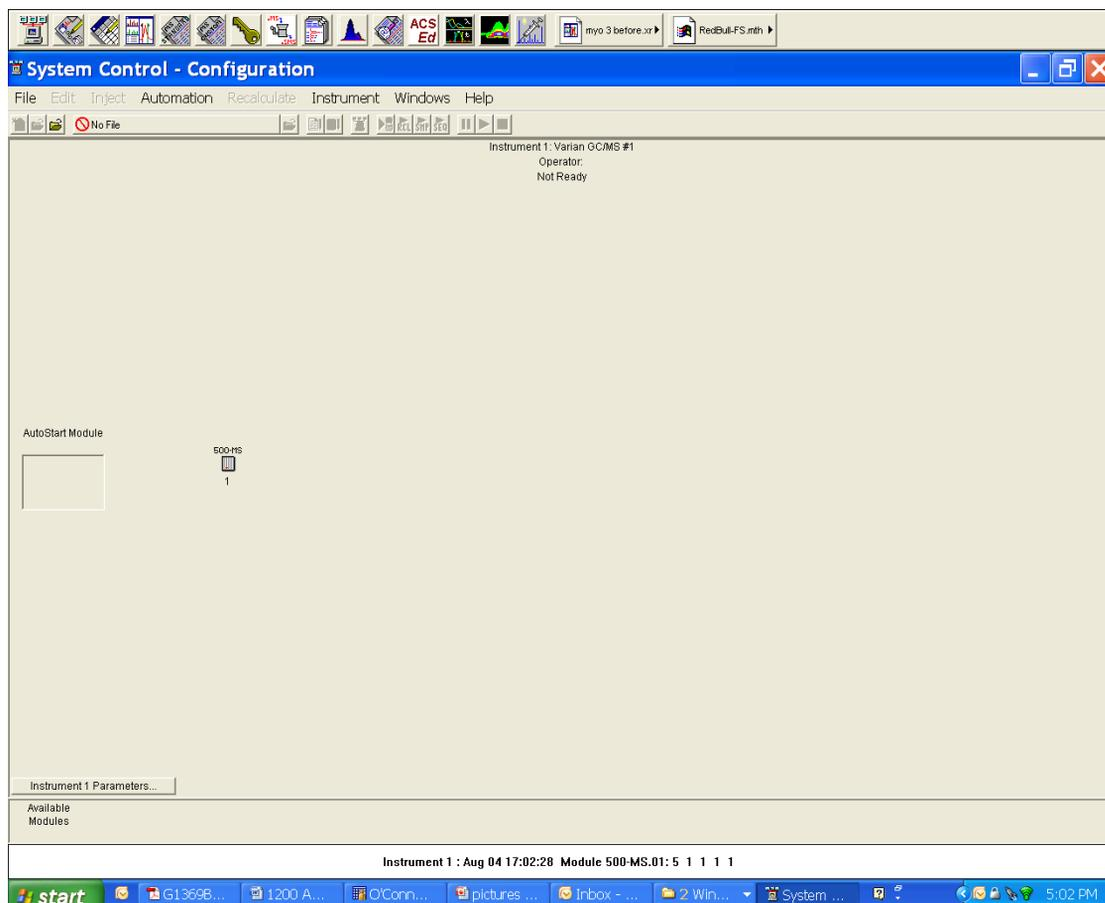

Figure 19 System Control - Configuration window
- 5 Check that the **500-MS** icon is *not* in the AutoStart Module box. See Figure 19.